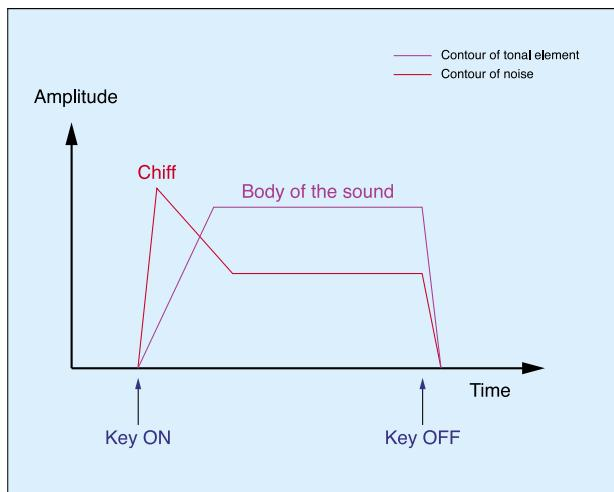

Figure 15: The contours for the noise signal and the pitched signal.
► Attack-Decay-Sustain-Release (ADS) envelopes, inserting a tiny delay before the onset of the Attack phase. Unfortunately, few synths have these envelopes, but we can get away with a simple ADSR if the Attack value is carefully chosen. Figure 15, below, shows how the two contours combine the wave and the noise into the composite sound.